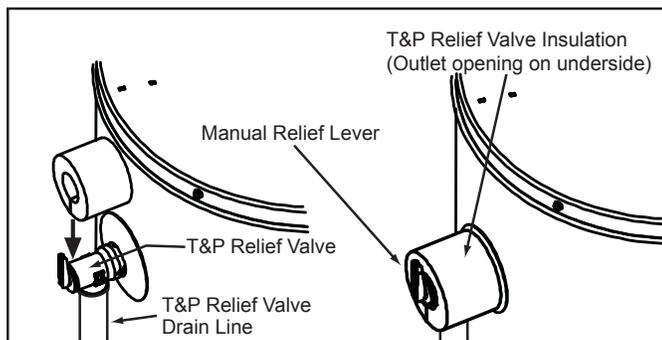

Figure 15.
Locate the temperature and pressure relief valve on the water heater (also known as a T&P relief valve). See Figure 15.
2. Spread the slit open and fit the insulation over the T&P relief valve. See Figure 15. Apply gentle pressure to the insulation to ensure it is fully seated on the T&P Relief Valve. Once seated, secure the insulation with duct tape, electrical tape, or equivalent. **Important:** The insulation and tape must not block the discharge opening or hinder access to the manual relief lever (Figure 15). Ensure a discharge pipe is installed into the T&P valve discharge opening per the instructions in this manual.